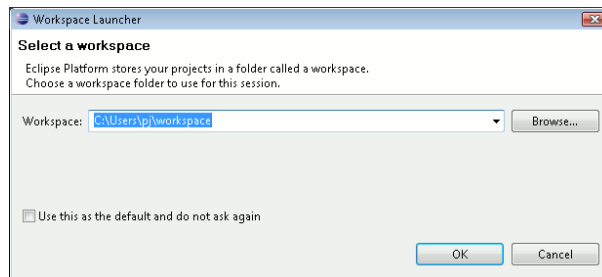
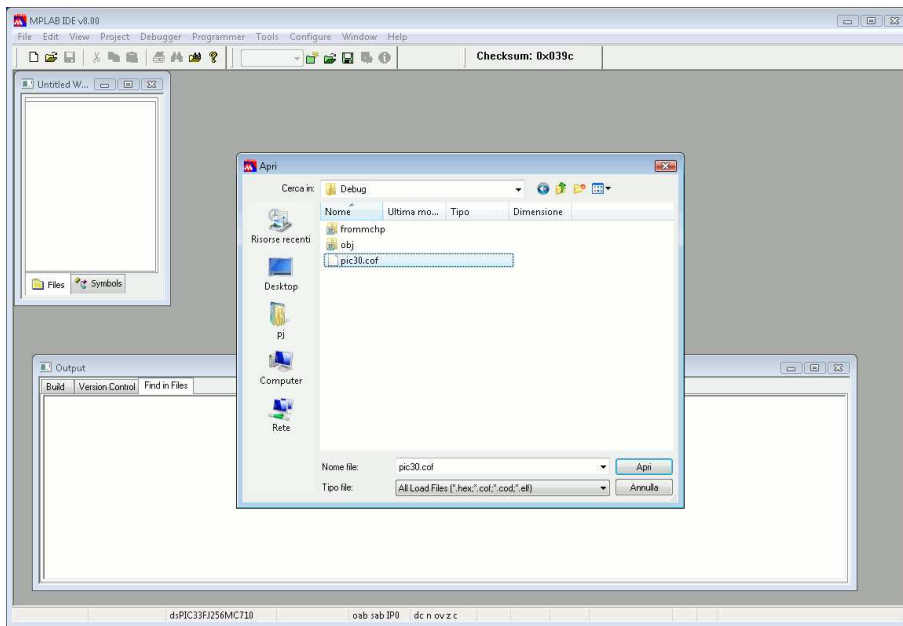

Figure 4.1: This screenshot shows the dialog box for the choice of the current workspace directory.
Figure 5.10: Select the COFF file you want to import.
2. A dialog box will appear, prompting to choose the right workspace (see Figure 4.1). Leave the default workspace directory as it is, and proceed by pressing “OK”.
10. A dialog box appear. Please select the pic30.cof file that has been produced by the compilation process in Eclipse, as shown in Figure 5.10. You can find that file inside the Eclipse workspace you selected at the beginning in Figure 4.1. In this example, the file is stored inside the directory c:\Programmi\Evidence\eclipse\workspace\pic30_oo_mono\Debug.